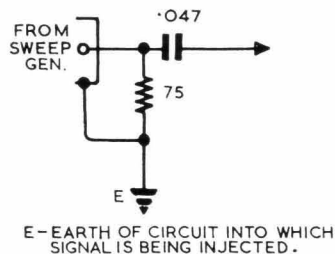

FIG. 3
To align the vision IF amp. a sweep generator and a marker generator, both covering the range 28.5 to 38.5 Mc/s are required, together with a display unit. The marker generator may be a signal generator and the display unit a CRO. These instruments should be interconnected as described in the instructions supplied with the sweep generator. The sweep generator should be terminated with a resistor equal to its output impedance and connected to the receiver as shown in Figure 3.
- (1) Connect the sweep generator via the network in Fig. 3 to pin 2 of V5. Adjust the slug in the IFT3 to peak response at 34 Mc/s. (Slug in position furthest from chassis) and L30 (slug nearest chassis) to achieve a symmetrical response as shown in curve "A." To remove any hole in the response, screw the slug in L26 away from the chassis until the hole disappears beyond the 29.875 Mc/s. mark.
- (2) Remove the sweep from V5 and reconnect to pin 2 of V4, using the same terminating pad. Maintain the level of the display unit constant by regulating the sweep output. Adjust the slug of L26 to peak response at 34 Mc/s., the position nearest the chassis. Adjust with the slug in IFT2 to keep the response symmetrical as in curve "B." To